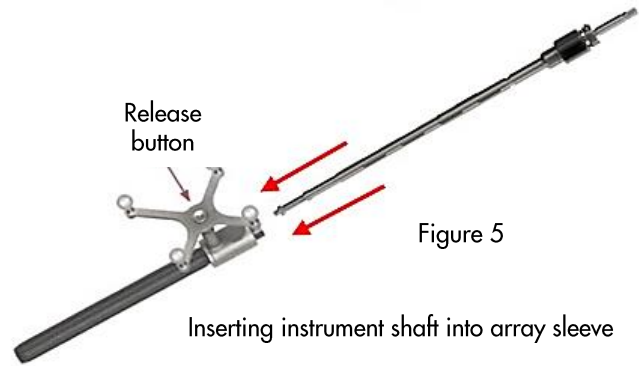

Figure 5
- Assemble Instruments to their mating instrument Array and ensure that the arrays are fitted with markers. The chart (Figure 4) identifies the Arrays to be used with Precision Spine E-GPS Instruments. Images shown (Figures 5 & 6) depict instrument assembly.